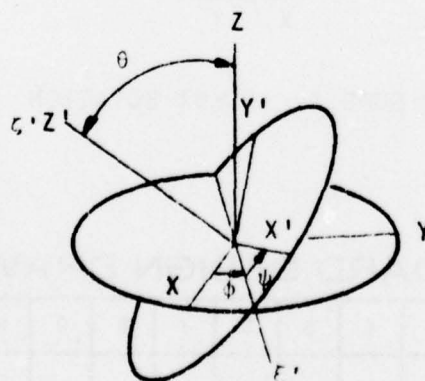

FIGURE 3. THIRD ROTATION
- (C) FINALLY, THE  $\xi'\eta'\zeta'$  AXES ARE ROTATED COUNTERCLOCKWISE ABOUT THE  $\zeta'$  AXIS BY THE ANGLE  $\psi$  TO PRODUCE THE DESIRED  $X'Y'Z'$  AXES (FIGURE 3) WHICH COINCIDE WITH THE PLATE OR SUBSTRATE SURFACES AS SHOWN IN THE APPLICABLE MATERIAL SPECIFICATION.